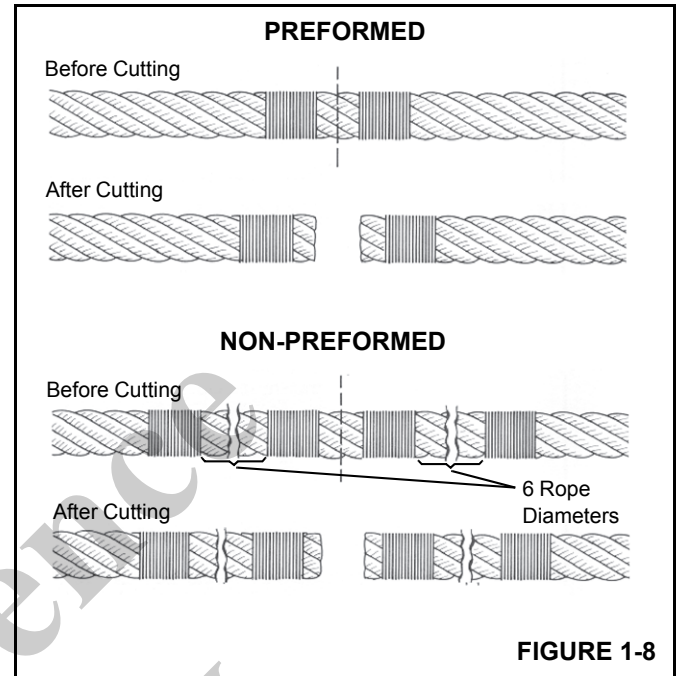

FIGURE 1-8
**NOTE:** Non-preformed wire rope should have two seizings located on each side of the cut (Figure 1-8).